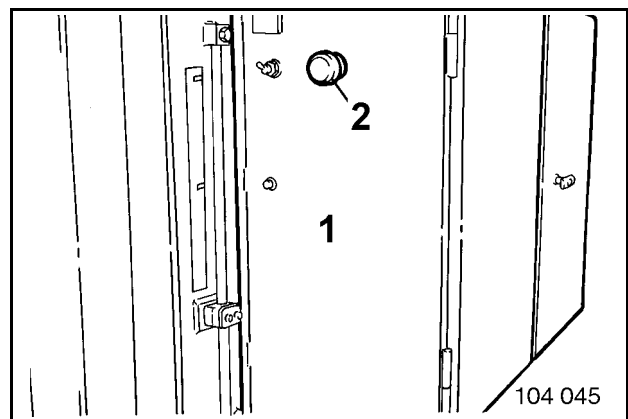

Fig. 2-24:
- in the control cabinet (2, Fig. 2-24;) and